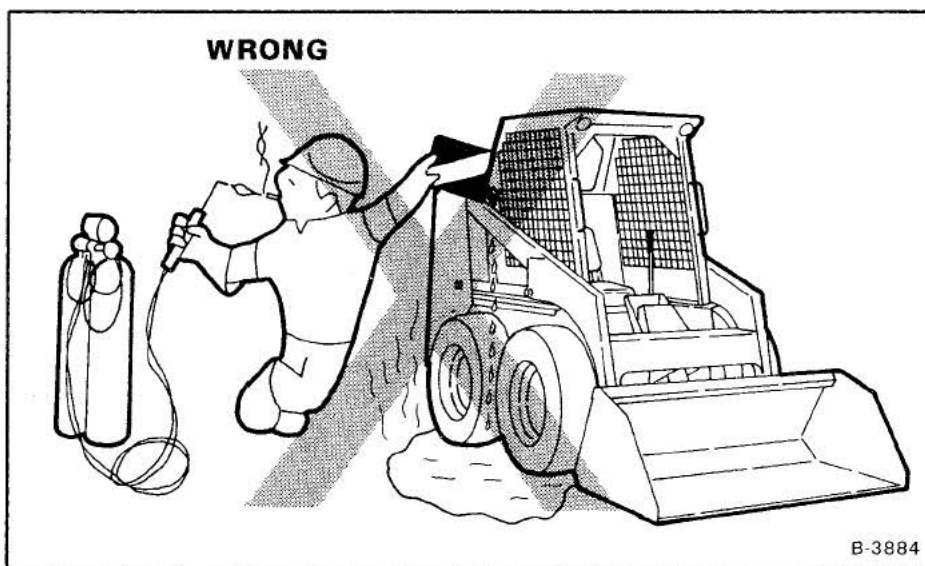

Fig. 46 Fuel Filling Procedure
3. Add fuel only in an area that has a free movement of air and no open flames or sparks. NO SMOKING (Fig. 46).